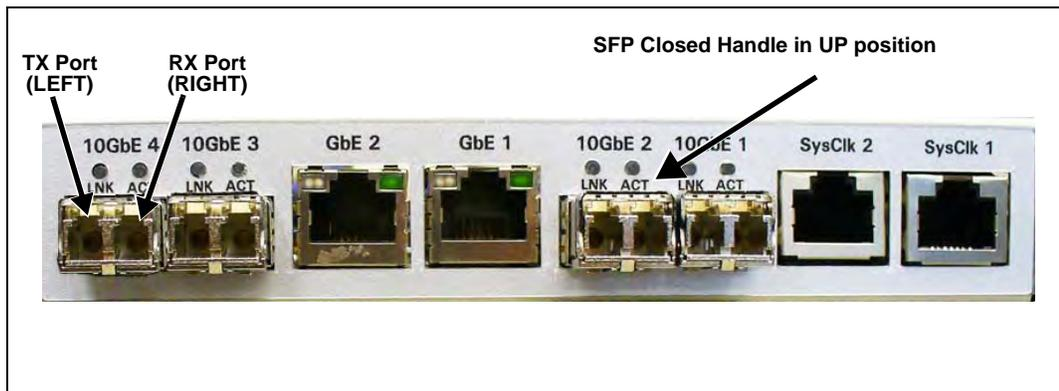

Figure A.5 - TRM100 RTM Paired with IIC100
Insert 10 Gb SFPs with the closed handle in UP position (**Figure A.5**). For the 10G SFPs, the left port is **Transmit (TX)** and the right port is **Receive (RX)**.